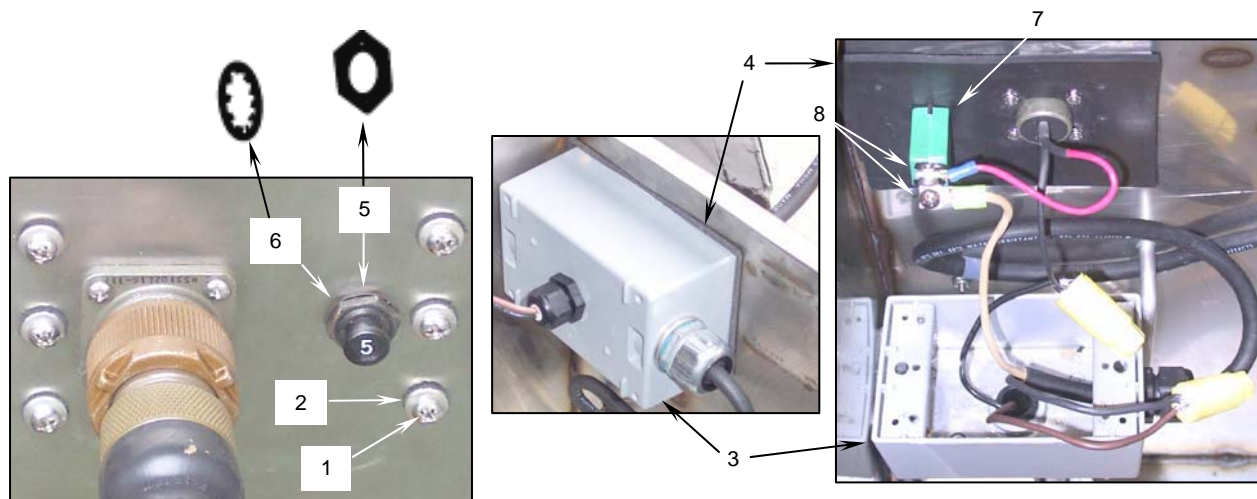

Figure 2. Removing the Grease Separator Circuit Breaker.
1. Remove the six machine screws (**Figure 2, item 1**) and sealing washers (**Figure 2, item 2**) that secure the weatherproof box (**Figure 2, item 3**) to the wall of the grease separator.
2. Carefully pull the box away from the wall, taking care not to damage the gasket (**Figure 2, item 4**).
- a. Remove and discard the lock nut (**Figure 2, item 5**) and lock washer (**Figure 2, item 6**) from the front of the circuit breaker.
- b. Pull the breaker (**Figure 2, item 7**) out of the grease separator enclosure.
- c. Tag and disconnect the two wires (**Figure 2, item 8**) from the terminals at the back of the circuit breaker.